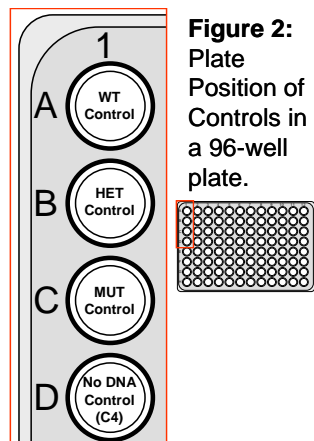

Figure 2:
Note: Controls must be placed in the correct wells for proper data interpretation. Refer to Figure 2.
10. Dispense 10 μ L of the appropriate control or sample (genotype-specific controls and all samples are diluted (See Step 3), Control 4 (NDC) is undiluted) to bottom of the appropriate well of the reaction plate (See Figure 2). Mix by pipetting up and down 3 – 5 times upon addition to ensure reaction homogeneity. Change pipette tips between every addition.